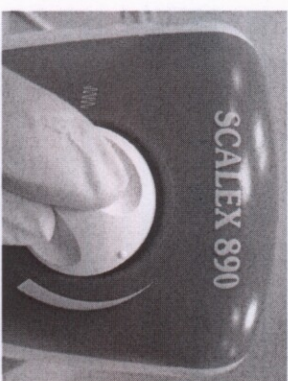

Figure 14
4. Rotate the intensity dial on the front panel in a clockwise direction to turn the unit on and to increase the intensity level (Figure 14).